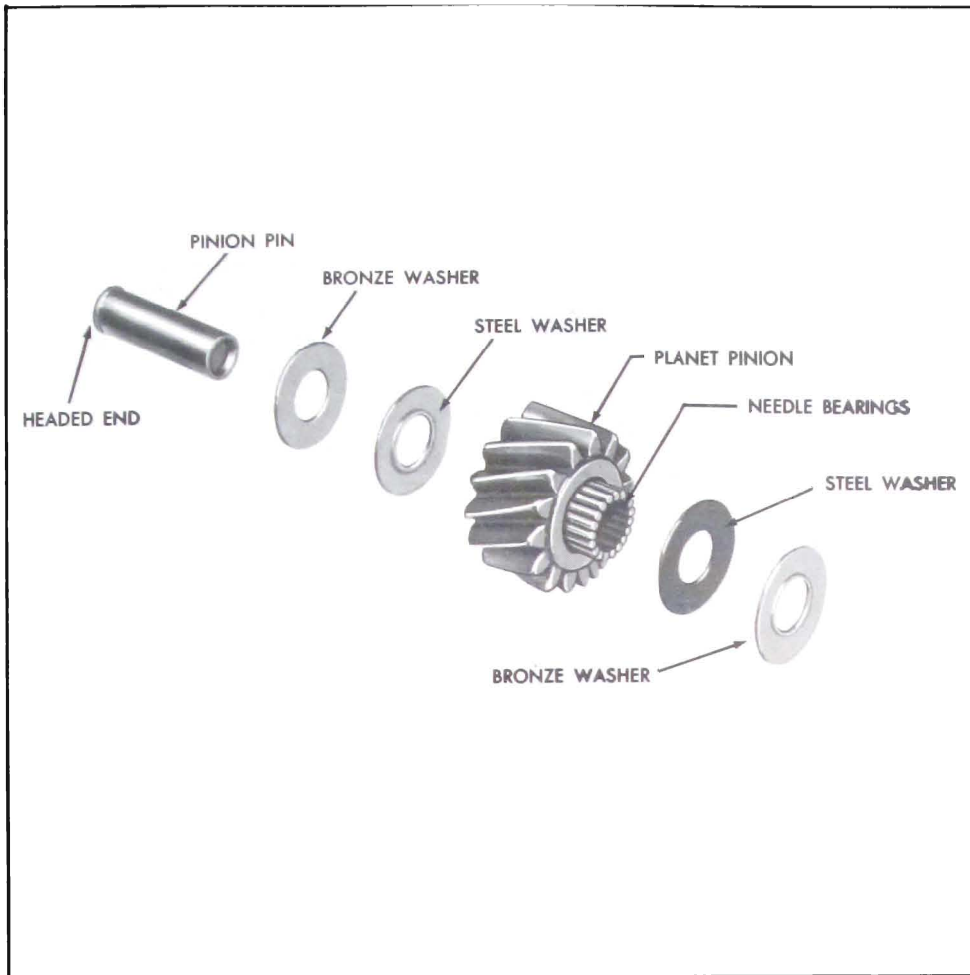

Figure 5-681
5. Install nineteen (19) needle bearings into each pinion, using petrolatum to hold the bearings in place. Use a pinion pin as a guide. See Figure 5-681.